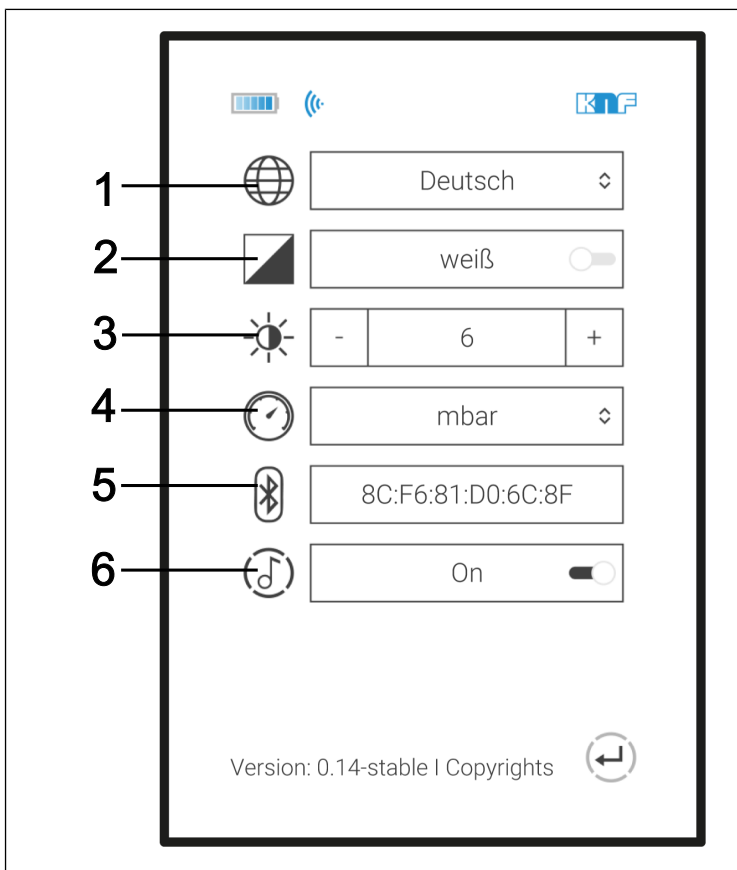
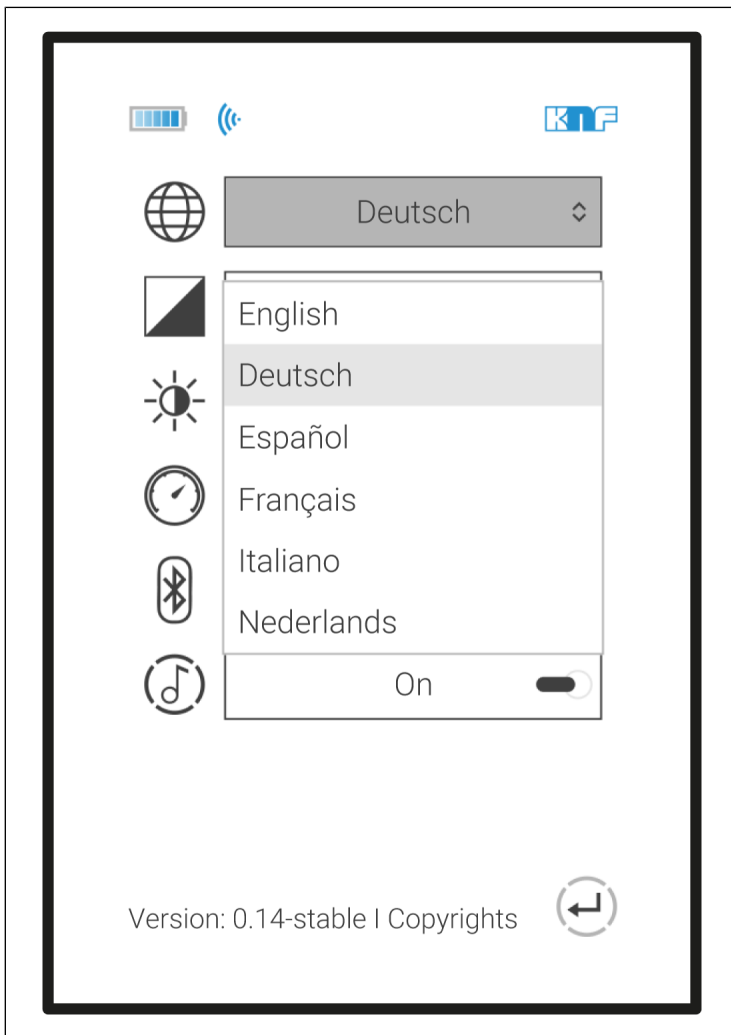

Fig.16: Menu: Settings
Fig. 17: Language selection
- Menus for selecting the unit for the pressure display (Fig. 16/4).
In Settings (Fig. 16), you can choose from the following menu languages: German, English, French, Italian, Spanish and Dutch (Fig. 17).
The pressure unit can be selected by going to Settings (Fig. 16) and selecting the Pressure unit menu there (Fig. 16/4).